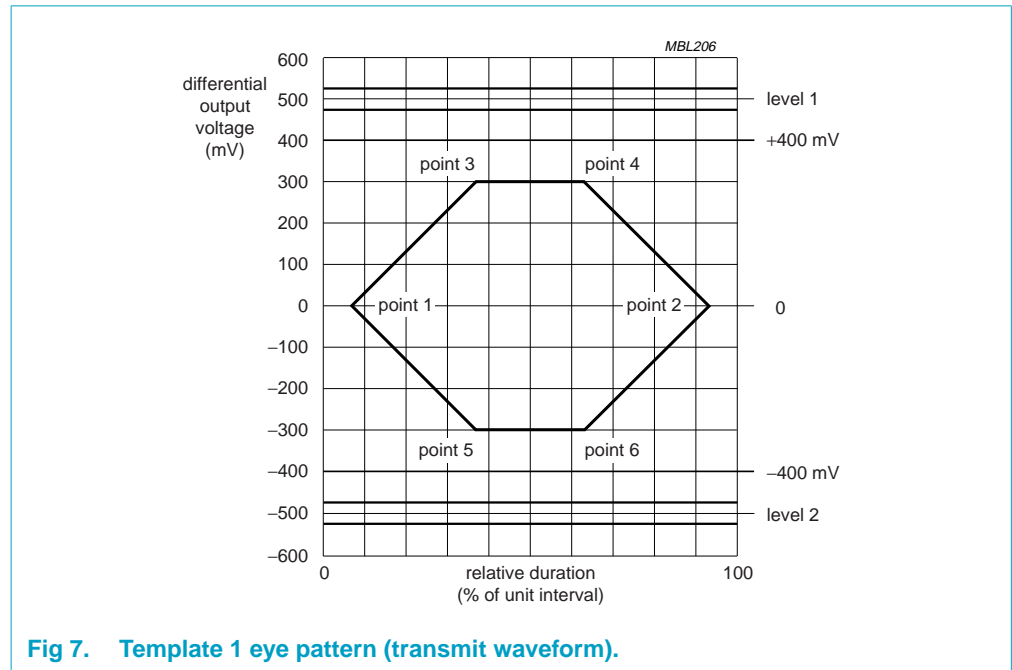

Fig 7. Template 1 eye pattern (transmit waveform).
The eye pattern in Figure 7 defines the transmit waveform requirements for a hub (measured at TP2) or a device without a captive¹ cable (measured at TP3). The corresponding signal levels and timings are given in Table 77. Timings are given as a percentage of the unit interval (UI), which represents the nominal bit duration T_{PERIOD} for a 480 Mbit/s transmission rate.